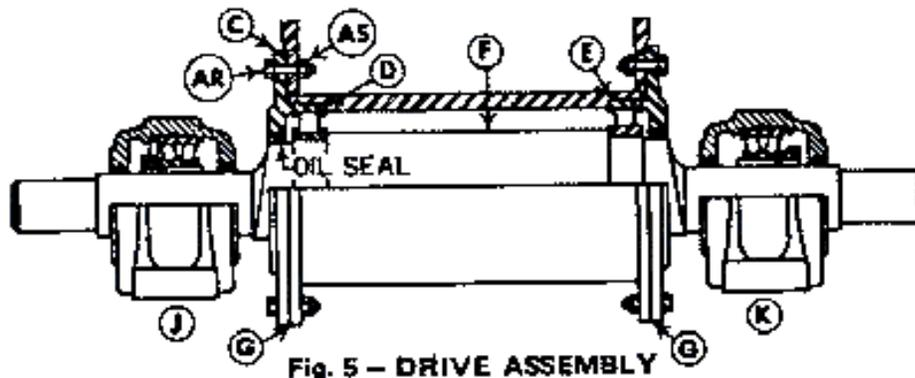

Fig. 5 - DRIVE ASSEMBLY
15. Remove bolts AR and nuts AS. Figure 5 (above).